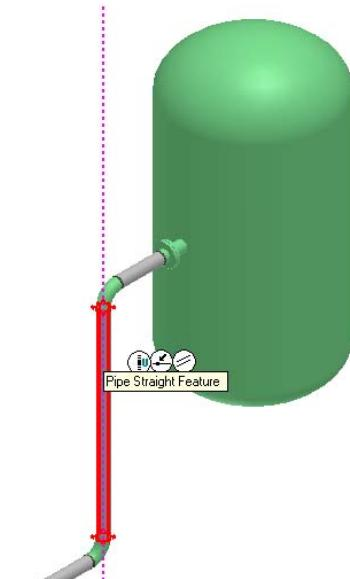

Figure 34: Pipe Straight Feature
12. Click the **Route Pipe** button on the vertical toolbar. Position the cursor along the **Pipe Straight Feature**, as shown in Figure 34 and click to define the active placement point.